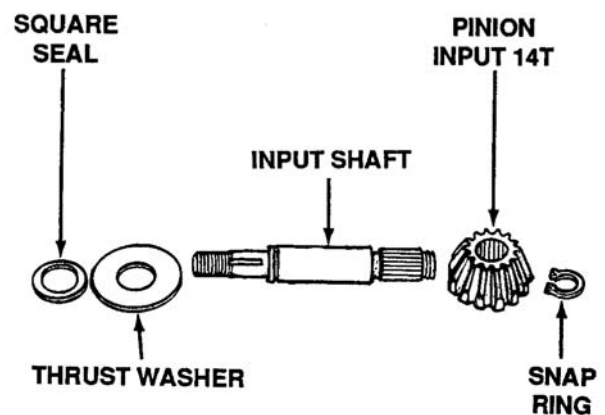

Figure 6-14. Disassembled Input Shaft
- Disassemble the input shaft and inspect parts. See Figure 6-14.